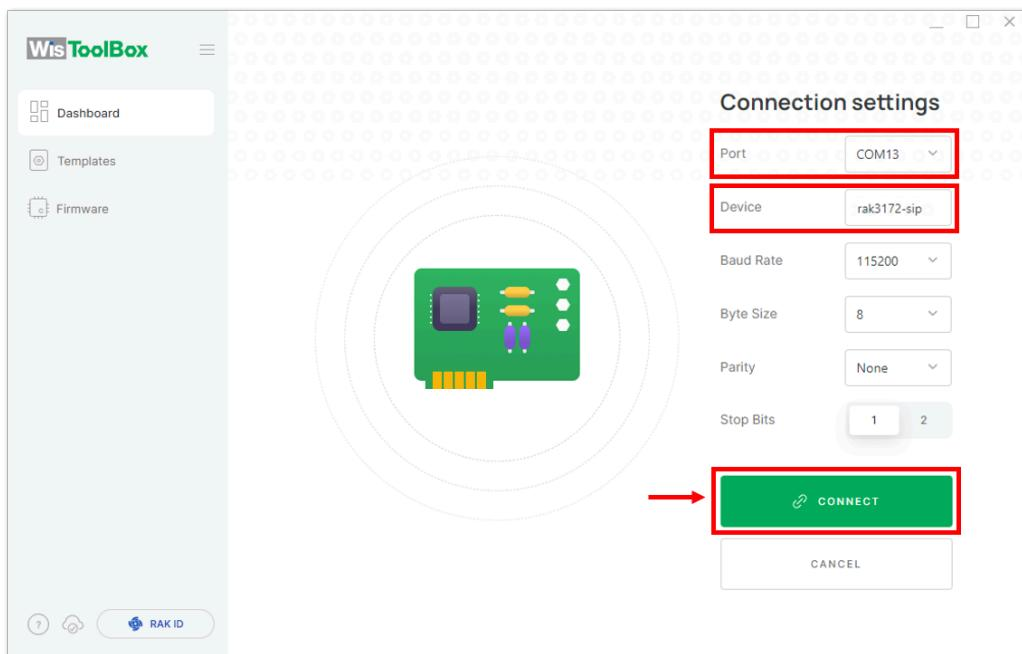

Figure 136: Setting up your device
3. Then select your target port where your **RAK3172-SiP** is connected. Once recognized, click **CONNECT** as shown in **Figure 136**.